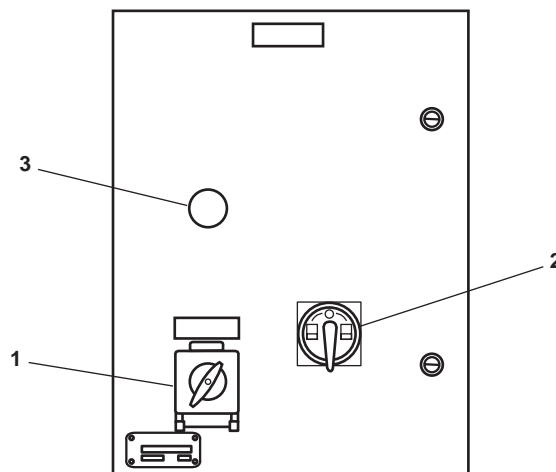

Figure 1. Steering Gear Motor Controllers
- a. Place the change-over switches (figure 1, item 1) to the 2 position for STOP.
- b. Set the ON-OFF POWER switches (figure 1, item 2) to OFF.
- c. Verify that the POWER ON indicator (figure 1, item 3) goes out.